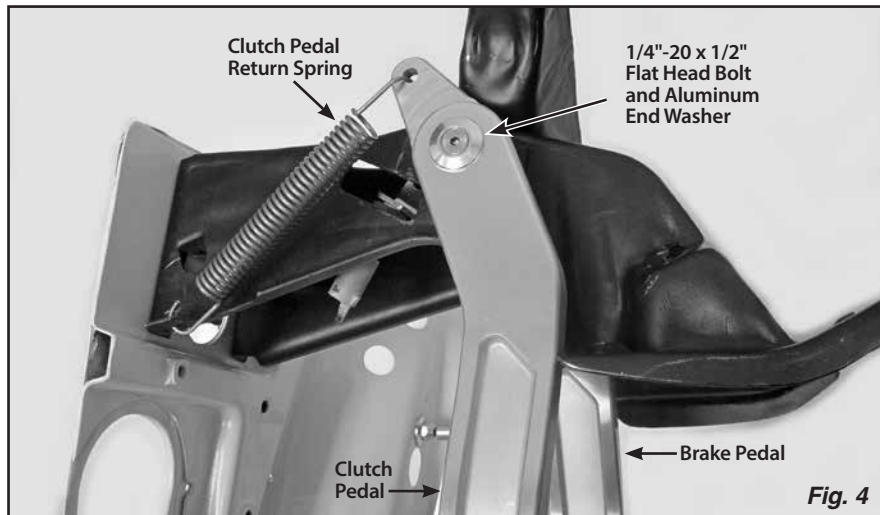

Fig. 4
- Step 4:** Install the Clutch Pedal onto the left hand end of the splined shaft. Install the 1/4"-20 x 1/2" flat head bolt and the aluminum end washer onto the left hand end of the splined shaft. Connect one end of the return spring to the hole at the very top of the Clutch Pedal, and connect the other end to the hole in the pedal hanger bracket near the firewall. **Fig. 4**